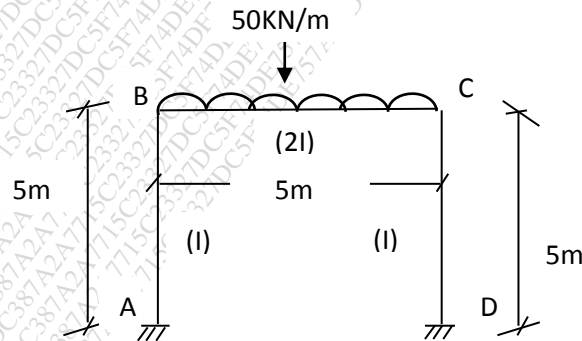

Fig. 2
- Q.3 Analyze the portal frame shows in fig. 2 by using column analogy method and draw BMD. 15